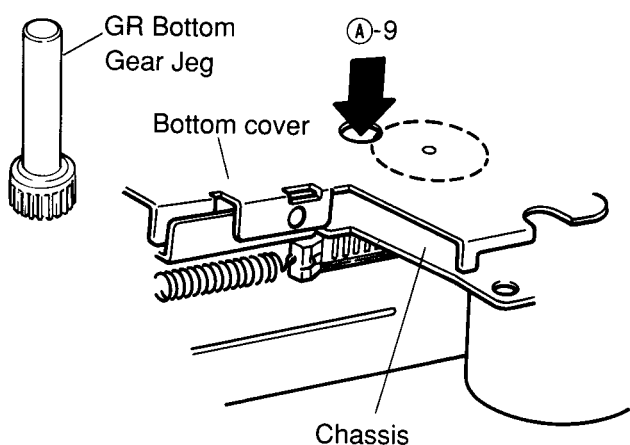

Figure 4
- (12) Since the hooks marked ①-8 will be lifted slightly as shown in Figure 4, insert the jig through the hole ①-9, and fix it turning the jig slightly in the direction ①-11.
(Refer to Figures 4 and 5.)
- (14) Insert the jig into the hole (A-9) as shown in Figure and rotate the eject solenoid counterclockwise about 20 times, pulling it in the direction (A-10) with the finger. Then the eject operation is completed. Instead of operation (14), the eject operation can be performed by mounting the mechanism to the product. (Refer to Figures 4 and 5.)